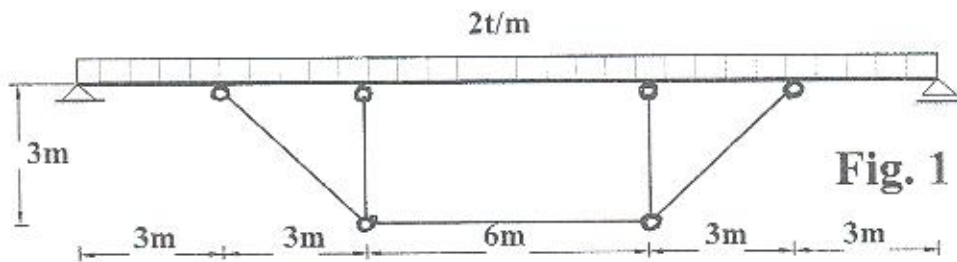

Fig. 1
- 1- Using the force method, draw the B.M., S.F., N.F. diagrams for the shown composite beam in Fig. 1. For beam  $EI = 40000 \text{ t.m}^2$  and for links  $L/A = 10 \text{ cm}^{-1}$ ,  $E = 2000 \text{ t/cm}^2$ . (15%)